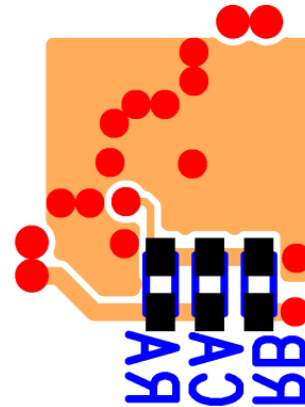

Figure 5: Bottom PCB Layer Critical Components ( $R_A$ ,  $R_B$ ,  $C_A$ ) & Copper for Minimum Footprint
**Recommendation 4:** As Figure 5 shows,  $R_A$ ,  $R_B$ , and  $C_A$  have been placed on the back side to minimize the footprint. These components also need to be close to the VFB pin (see Figures 3, 4 and 5). The VFB pin is a high-impedance, sensitive node. Keep any trace connected to this node as short and thin as possible. Whenever possible, connect  $R_B$  directly to the AGND pin instead of going through the GND plane. In the layout shown above,  $R_B$  goes to the via next to AGND pin using a dedicated trace on layer 3 not shown here. Please see the Gerber files at <https://www.intel.com/enpirion>.